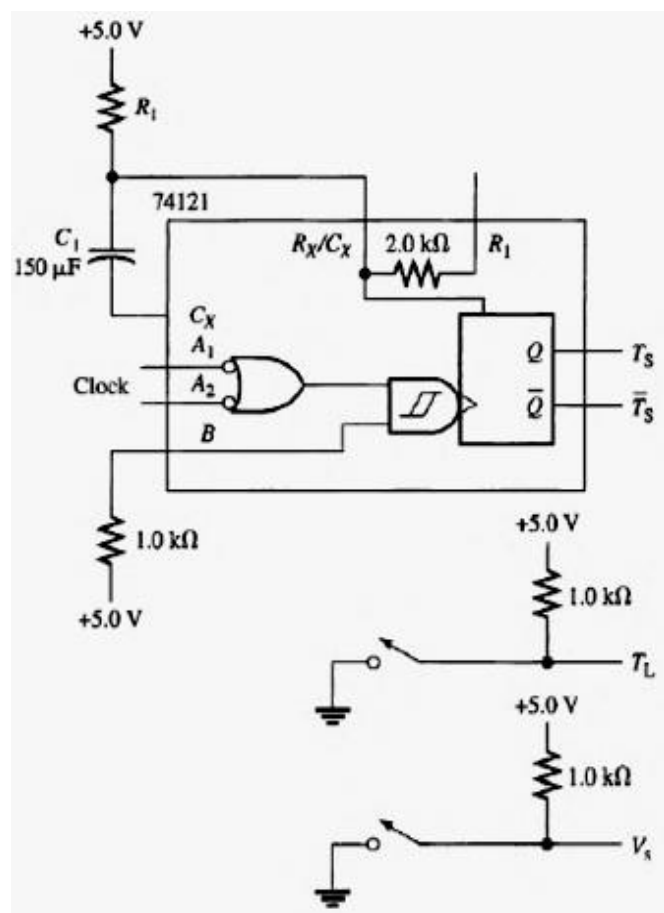

Figure 14.3
this part of the experiment. From the next-state table, it can be seen that the short timer should be ON in the second and fourth states (Gray codes 01 and 10). Triggering will be set up so that the short timer will trigger on the trailing edge of the clock, causing it to start in any state. This won't matter for this experiment because it is tested only to move into states 00 and 11. The trailing edge is used for triggering the short timer because the outputs change on the leading edge. This avoids a "race" condition where the clock and states change together. The triggering for this experiment is shown in Figure 14.3. The present state-next state table with input conditions is shown in Table 14.1 of the report. Each pair of lines in Table 14.1 represents the two possible states that the counter could assume. For example, on the first pair of lines, the counter is in the first state (Gray code 00) and could either stay in the first state (Gray code 00) or go to the second state (Gray code 01), depending on the long timer and vehicle sensor inputs. Notice that in the first state (Gray code 00), the next state for Q_x requires that it remain a 0 no matter what the inputs do, so a 0 is entered for the product term for data selector-1 (DS-1). On the other hand, Q_0 will be a 1 only if the long timer is LOW (timed out) and the vehicle sensor is HIGH (vehicle waiting). Thus, the input product term for DS-0 is $TLVS$. As one more example, notice that in the second state (Gray code 01), the next state for Q_0 will be a 1 no matter what the inputs do, so a 1 is entered in the table.
- c. To simulate the inputs, construct only the short timer shown in Figure 14.3. You will need to compute the value of R_1 in order to make a 4 s timer. Notice that the triggering of the short timer is different than in the full system for reasons of simplicity. The long timer and vehicle sensor are made from SPST switches as shown in Figure 14.3. A “NOTed” variable, such as TL , is asserted when the switch is closed.